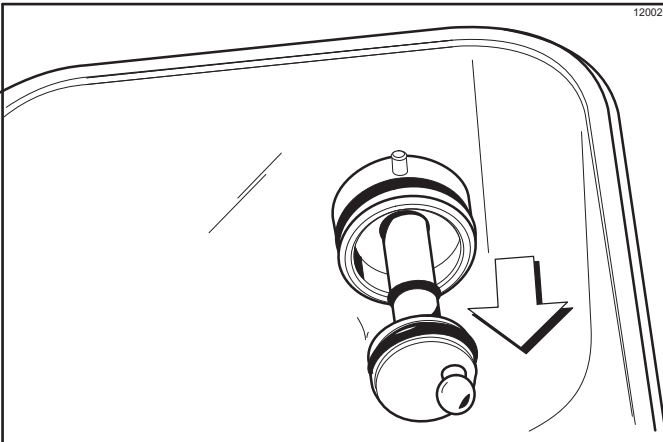

Figure 6-41
- Remove the pump drive shafts from the drive hubs in the rear wall of the mix hoppers. (See Figure 6-41.)